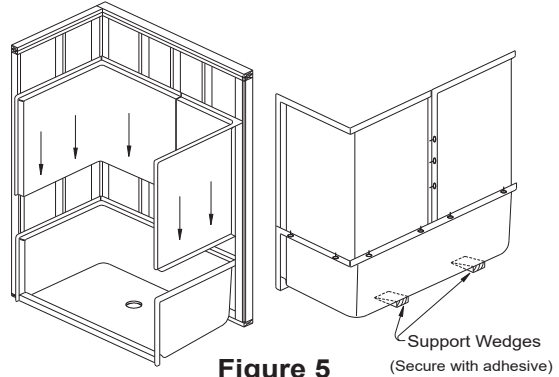

Figure 5
- Place the walls on top of the base, aligning the slots with the pins. For three piece units, install the valve wall last. Repeat the same for the opposite wall. Make sure the parts are seated in the silicone, and that all seams are even and in alignment. Press all seams together to assure a tight fit. Wipe away any excess caulk before it cures. See Figure 5.